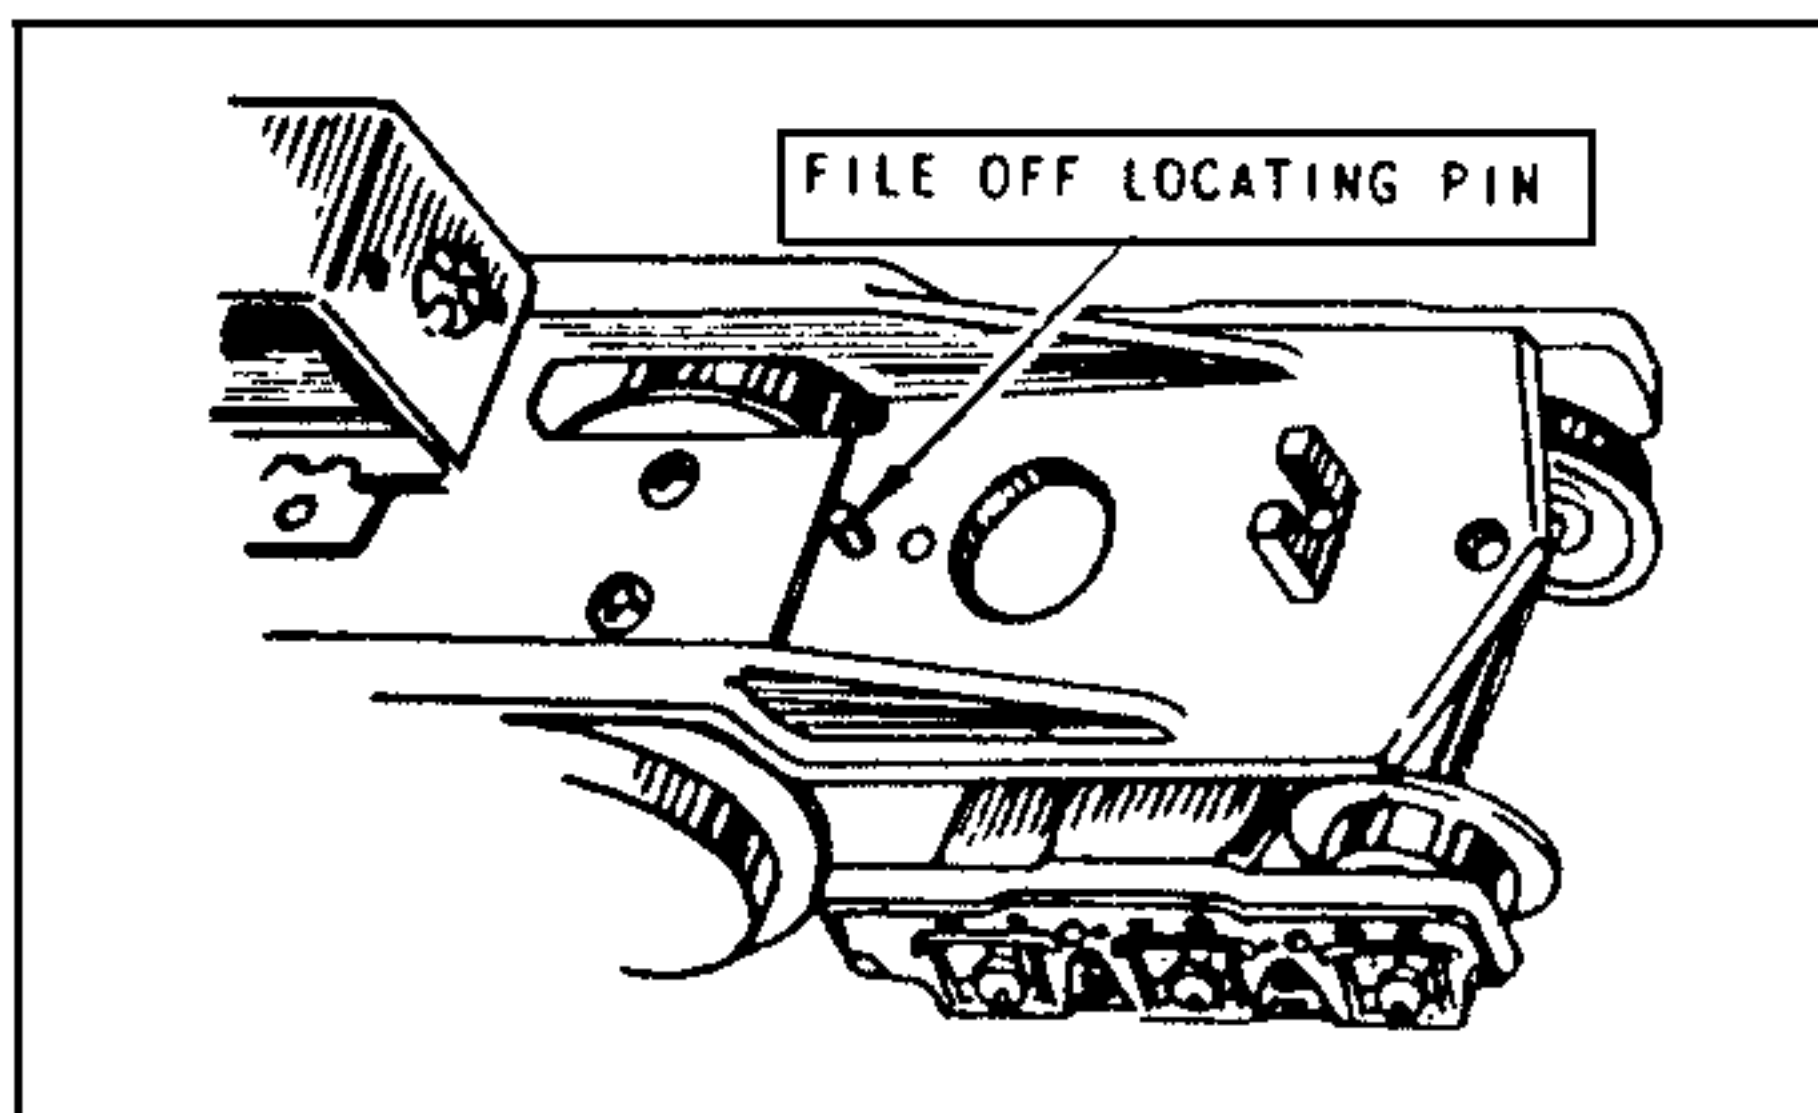

Figure 2 - File off lamp generator locating pin.
4. Before replacing the Smoke Lever Assembly file or chisel off the locating pin flush with the surface of the casting. (See Figure 2)